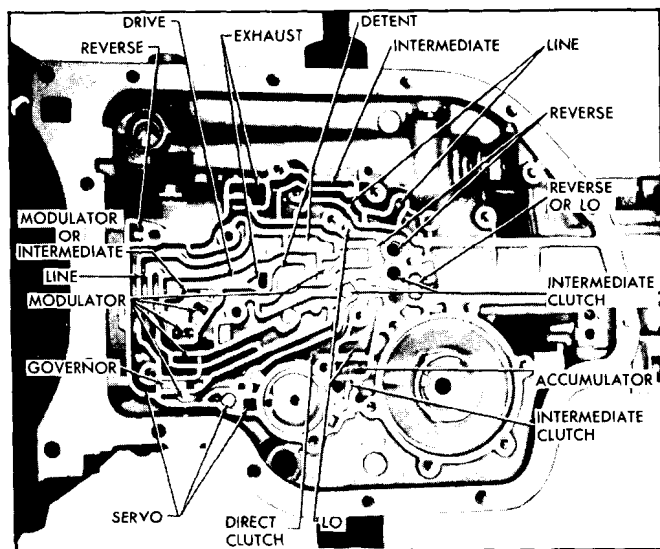

Fig. 7E-159 Case Passages - Bottom View
1. Inspect case for cracks, porosity or inter-connected passages (Fig. 7E-158 and 7E-159).